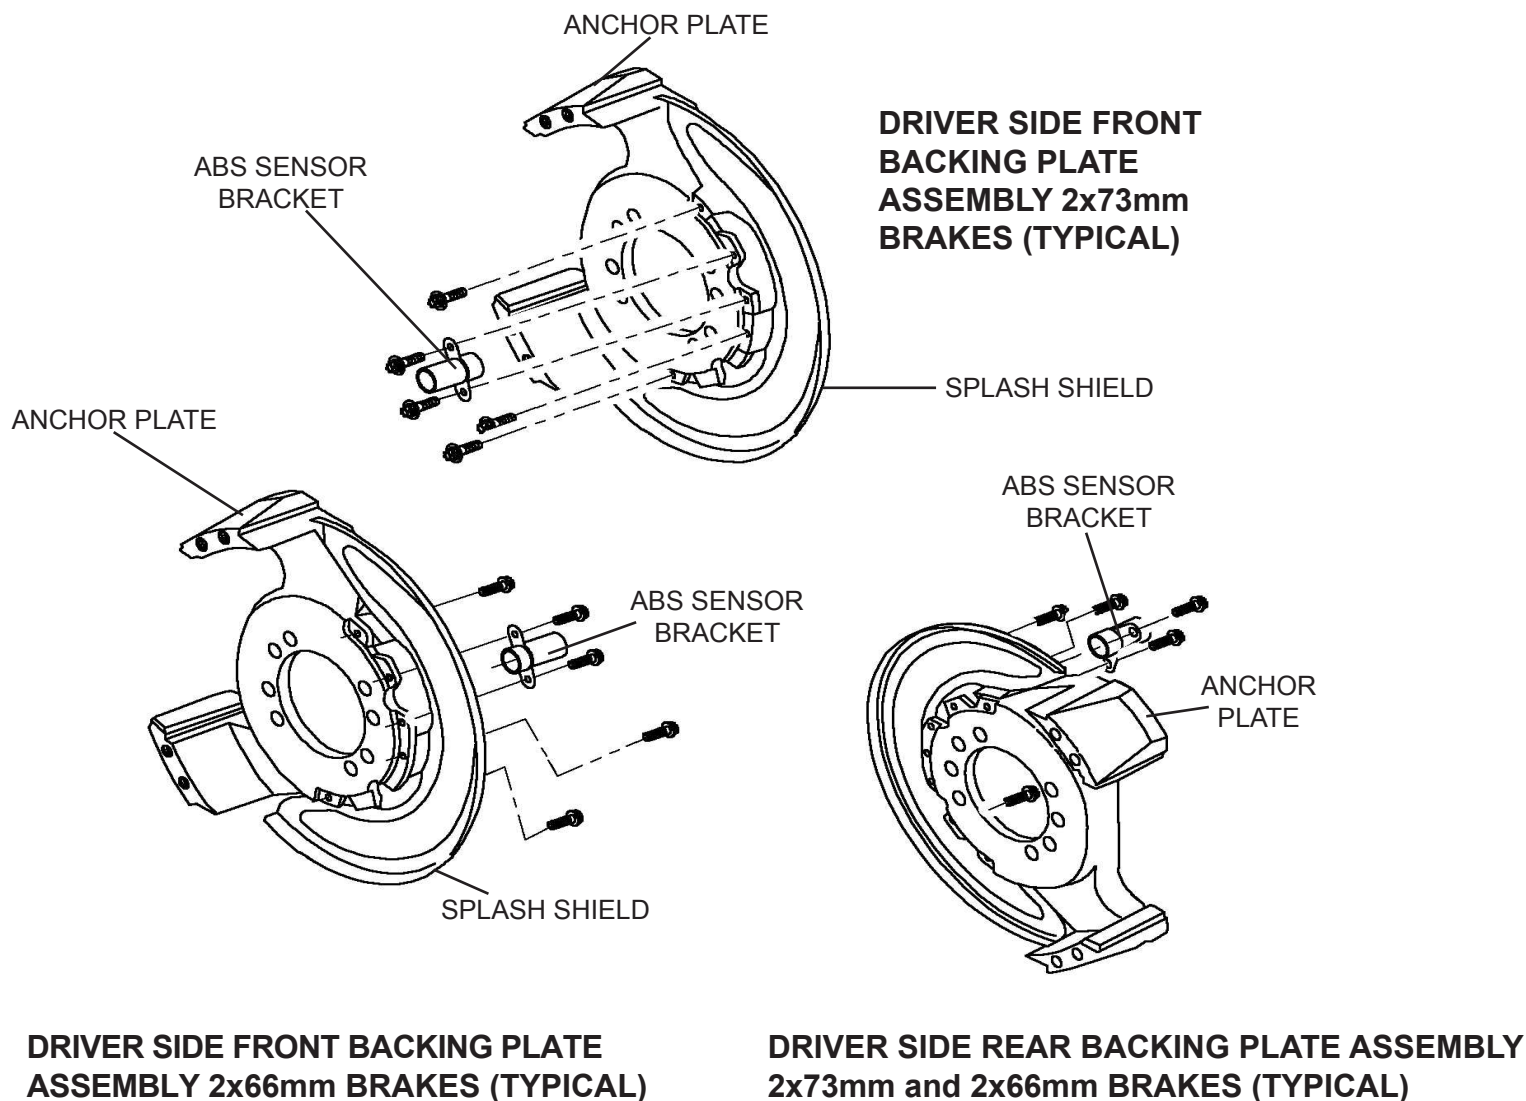

Figure 43. Splash Shield and ABS Sensor Mounting Bracket Removal and Installation
3. Remove splash shield and ABS sensor bracket from anchor plate, as shown in *Figure 43*.
4. Install splash shield and ABS sensor bracket onto replacement anchor plate. Refer to *Figure 43*. When installing the splash shield and ABS sensor bracket on the anchor plate for 2x66mm front and all rear brakes, the splash shield and ABS sensor bracket assembly are mounted on the inboard side of the anchor plate and the five bolts are installed from the inboard side. Torque to 12-16 lb.-ft. (17-21 N•m).
5. On the 2x73mm front brakes, the splash shield and ABS sensor bracket are mounted on the outboard side of the anchor plate, and the five bolts are installed from the outboard side. See *Figure 43*. Torque to 12-16 lb.-ft. (17-21 N•m).